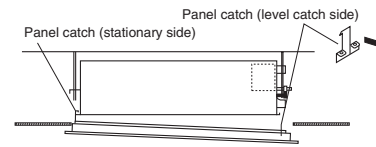

Fig. 7-22
- (1) Lift the ceiling panel and position it to align the panel catches with the catch recesses of the indoor unit.
- (2) Hook the stationary catch first and then press up on the opposite side to engage the level catch to install as shown in Fig. 7-22.
Release one side of the panel by pressing the panel catch in the direction of the arrow. (See Caution.) Completely remove the ceiling panel by disengaging the stationary catch. (Fig. 7-22)